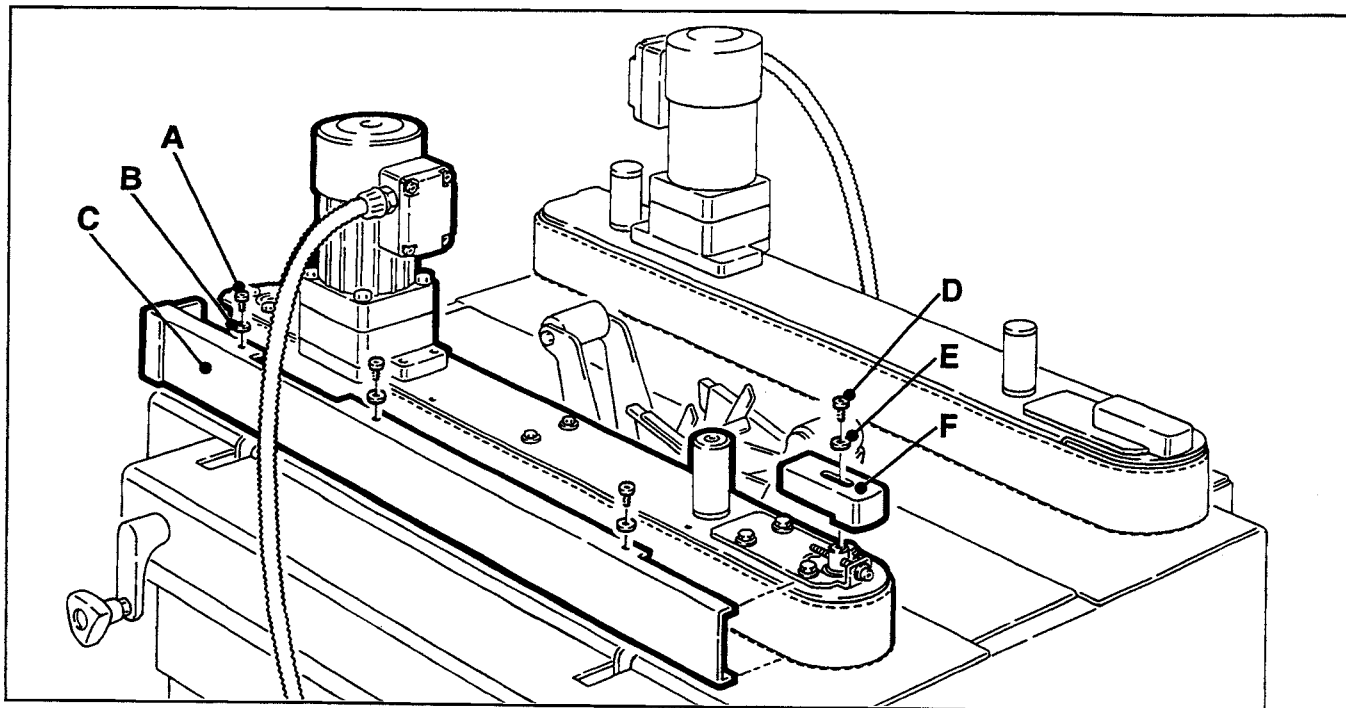
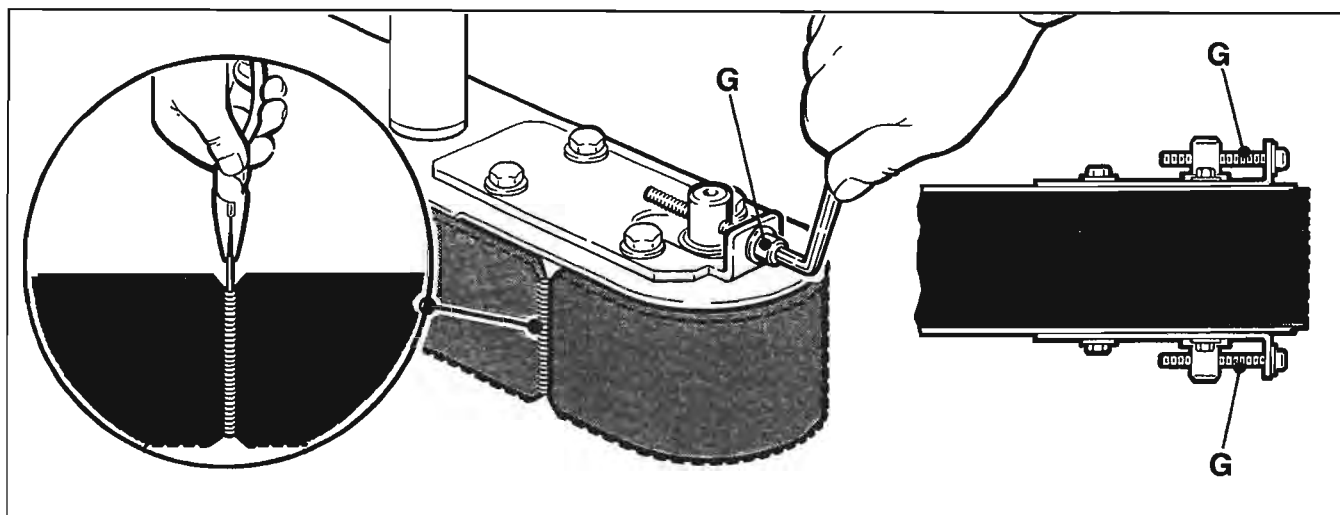

Figure 4-2 – Box Drive Belt (Left Side View – Infeed End)
Figure 4-3 – Box Drive Assembly, Infeed End
1. Remove and retain the three screws (A), three washers (B) and side cover (C). See Figure 4-2.
2. Remove and retain the screw (D), washer (E) and belt tensioner cover (F).
3. Turn belt adjustment screws (G) counterclockwise on both the upper and lower tension assemblies until belt is loose. See Figure 4-3.
6. To set drive belt tension, turn adjustment screws (G) equally on both the upper and lower tension assemblies. Turn the screws clockwise to increase tension or counterclockwise to decrease tension. See Figure 4-3.